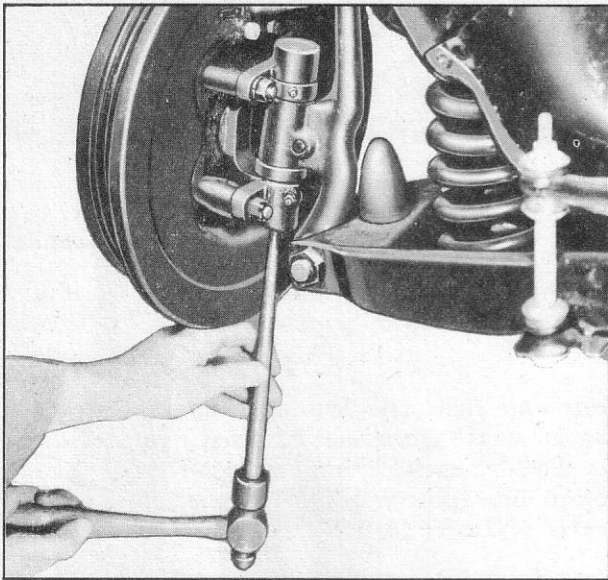

Fig. 26—Removing Kingpin Upper Bearing Plug
4. Remove the kingpin bearing plugs. This can be done with a sharp drift punch by driving through the lower plug and forcing the kingpin upward until the upper plug is removed (fig. 26). The kingpin may then be removed by driving it out the bottom using a soft steel drift.